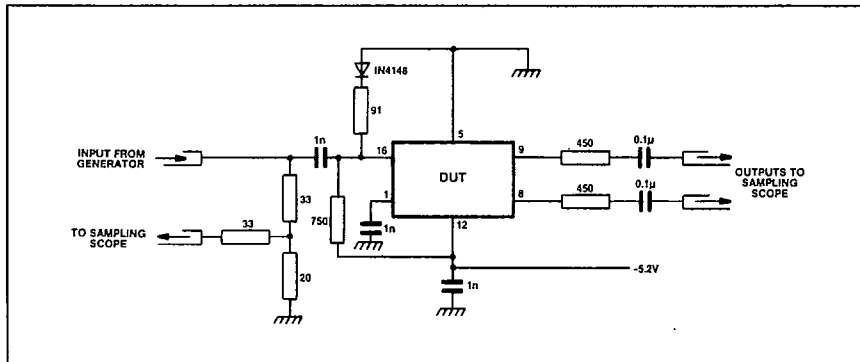

Fig.6 Test circuit
3. The test configuration for dynamic testing is shown in Fig.6.
1. The clock and control inputs are ECL III compatible. There is an internal pulldown resistor to V_{EE} of 4.3k on each input and therefore any unused input can be left open circuit when not in use but should be bypassed for RF signals with a 1nF capacitor to ensure maximum noise immunity. If it is desirable to capacitively couple the signal source to the clock input then an external bias is required as shown in Fig. 6. The external bias voltage should be -1.3V at 25°C.